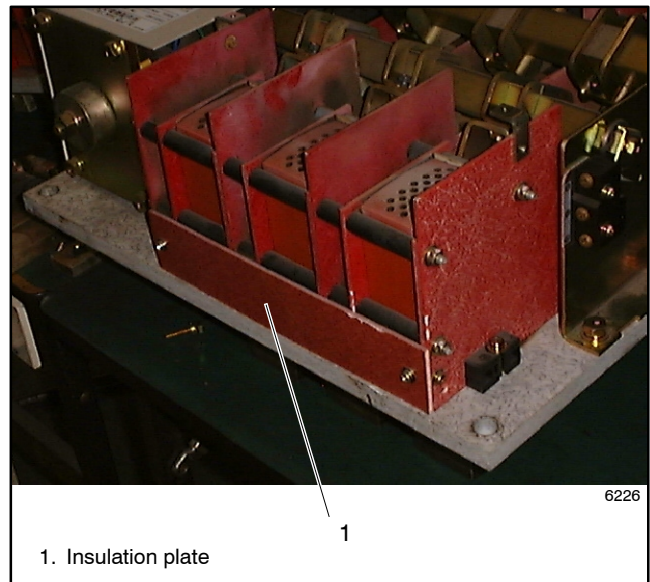

Figure 8-39 600 Amp Contactor
2. Remove the insulation plate. See Figure 8-39.